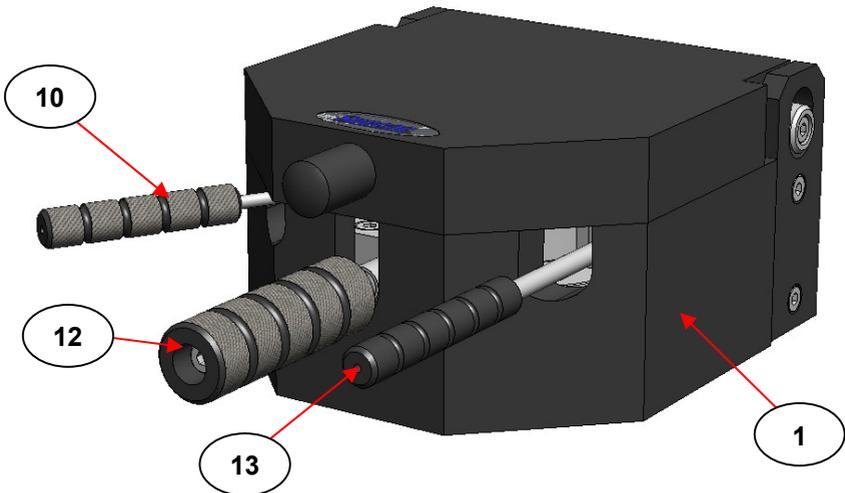

Fig 10. Film Maker Accessory Assembly Components in Cooling Chamber After Heating and Pressing
When the **actual** temperature of the heated platen surfaces (20) and (21) have cooled to about 100°C below the melting and pressing temperature, release any tonnage load that is being applied and very carefully remove the Film Maker Accessory assembly components from the Press to place in the cooling chamber (1). This will aid in quicker cooling of the film to be able to handle it for mounting in the spectrometer. (See Fig 10.)